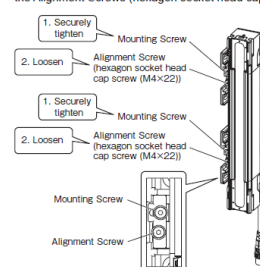

Fig. 3
3. Securely tighten the Mounting Screws to fix the Adjustable Side-Mount Bracket to the yellow area of the sensor housing. The recommended torque to tighten the Mounting Screws is 3.0 N·m. Then loosen the Alignment Screws (hexagon socket head cap screws (M4x22)). (Fig. 3)